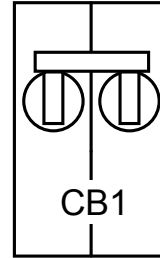

Figure 18. Main Circuit Breaker (CB1)
1. Place the main circuit breaker, CB1 (Figure 18) on the control panel to the **ON** position.